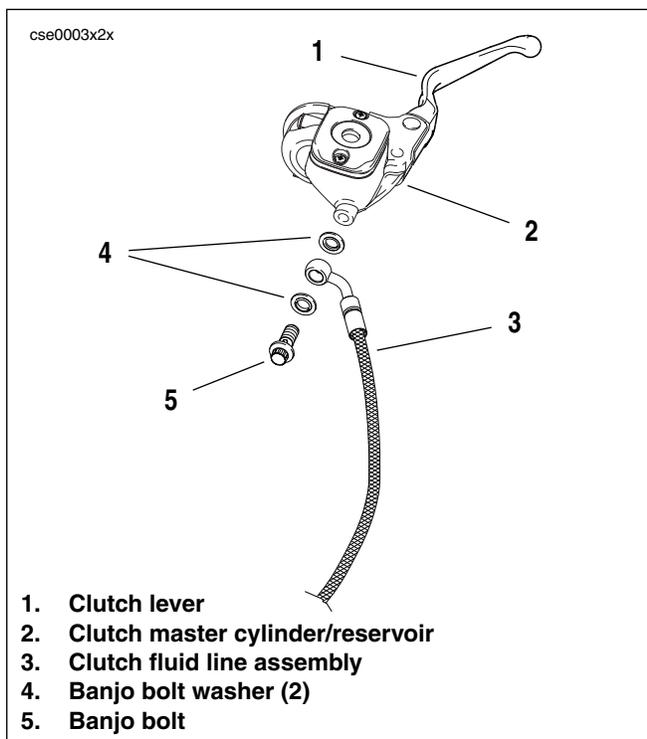

Figure 2-37. Clutch Master Cylinder Assembly and Fluid Line
8. See Figure 2-37. Remove banjo bolt (5) and two washers (4) to disconnect fitting of hydraulic clutch fluid line (3) from clutch master cylinder/reservoir (2). Discard washers.
17. See Figure 2-37. Attach banjo fitting of the clutch fluid line (3) to master cylinder (2) with new washers (4).